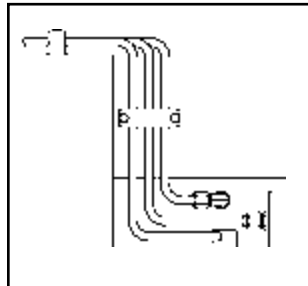

Fig. A28 — Correct
- **Have a neat appearance and allow for easy troubleshooting, maintenance and repair.** (See Figures A28 and A29.)